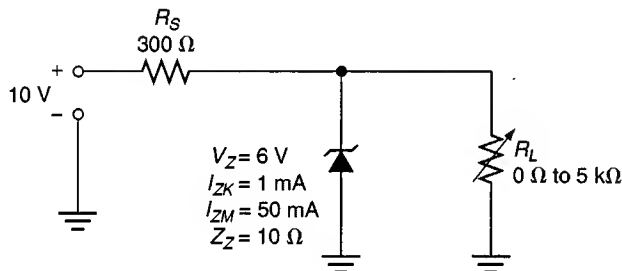

FIGURE 3.61
39. For the circuit shown in Figure 3.61, determine the total circuit current.
40. For the circuit shown in Figure 3.61, determine the value of I_L for $R_L = 2\text{ k}\Omega$.
41. For the circuit shown in Figure 3.61, determine the value of I_Z for $R_L = 2\text{ k}\Omega$.
42. For the circuit shown in Figure 3.61, determine the value of I_Z for $R_L = 3\text{ k}\Omega$.
43. For the circuit shown in Figure 3.61, determine the minimum allowable value of R_L .